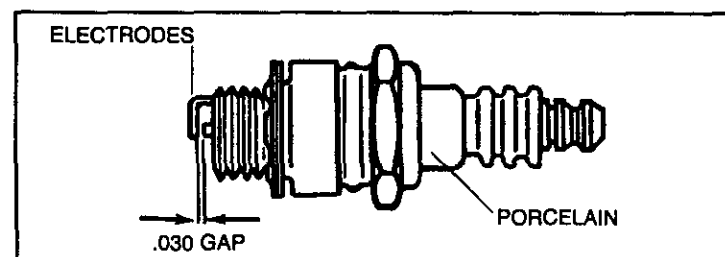

Figure 5
### ④ SPARK PLUG (see Figure 5):